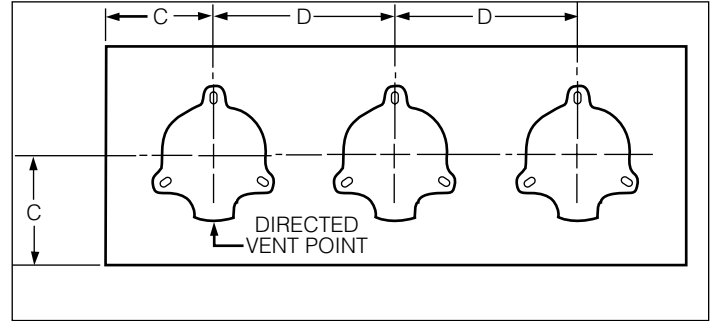
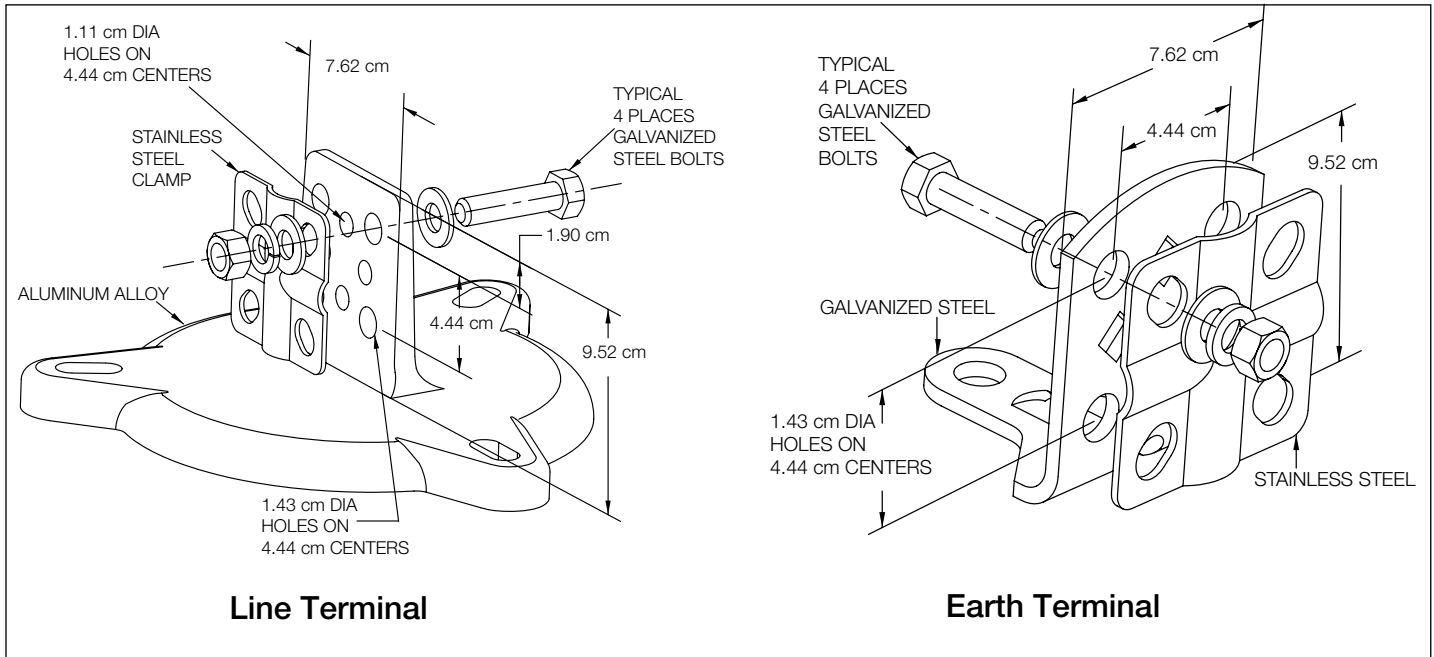

Figure 4.
Figure 5.
Figure 4 illustrates an in-line mounting arrangement; the applicable values of "C" and "D" may be found in Table 5. Line and earth terminal details are shown in Figure 5; the supplied terminals accommodate aluminum and copper conductors to a maximum size of 335 mm². For other conductors the terminal drilling pattern shown will accommodate industry standard two (2) and four (4) hole flat pad connectors having a 45mm spacing. Figure 6 provides the dimensional details for universal base mounting.
Table 5. Catalog Numbers and Dimensional Information (See Figures 4 & 8)
3. Refer to Figure 4 for Illustration of Dimensions C and D and Figure 8 for Dimension A.